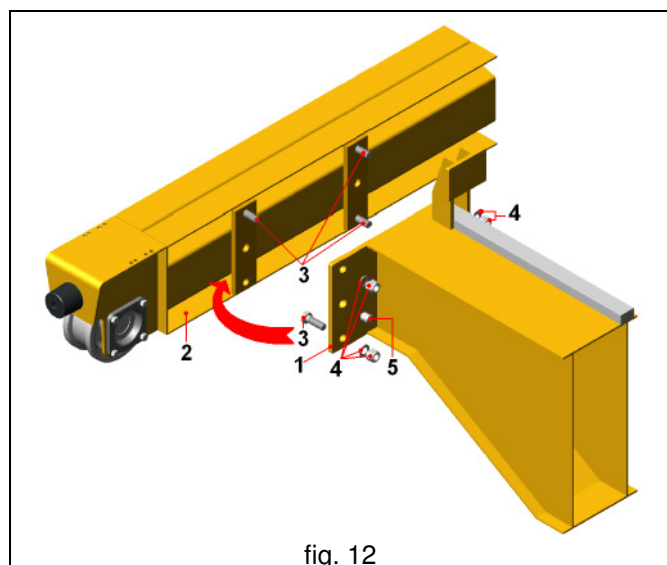

fig. 12
- **L = Beam connection in “lateral” connection (fig. 12)**
1. Set the girder alongside the beam, allowing the holes on the cross-plate (1) to match those on the beam (2);
2. Insert the screws (3), taking care to maintain the nuts and rings (4) on the outside, i.e. on the plate (1);
3. Screw on and set the nuts (4) without tightening them, to allow the insertion of the centring pins (5);